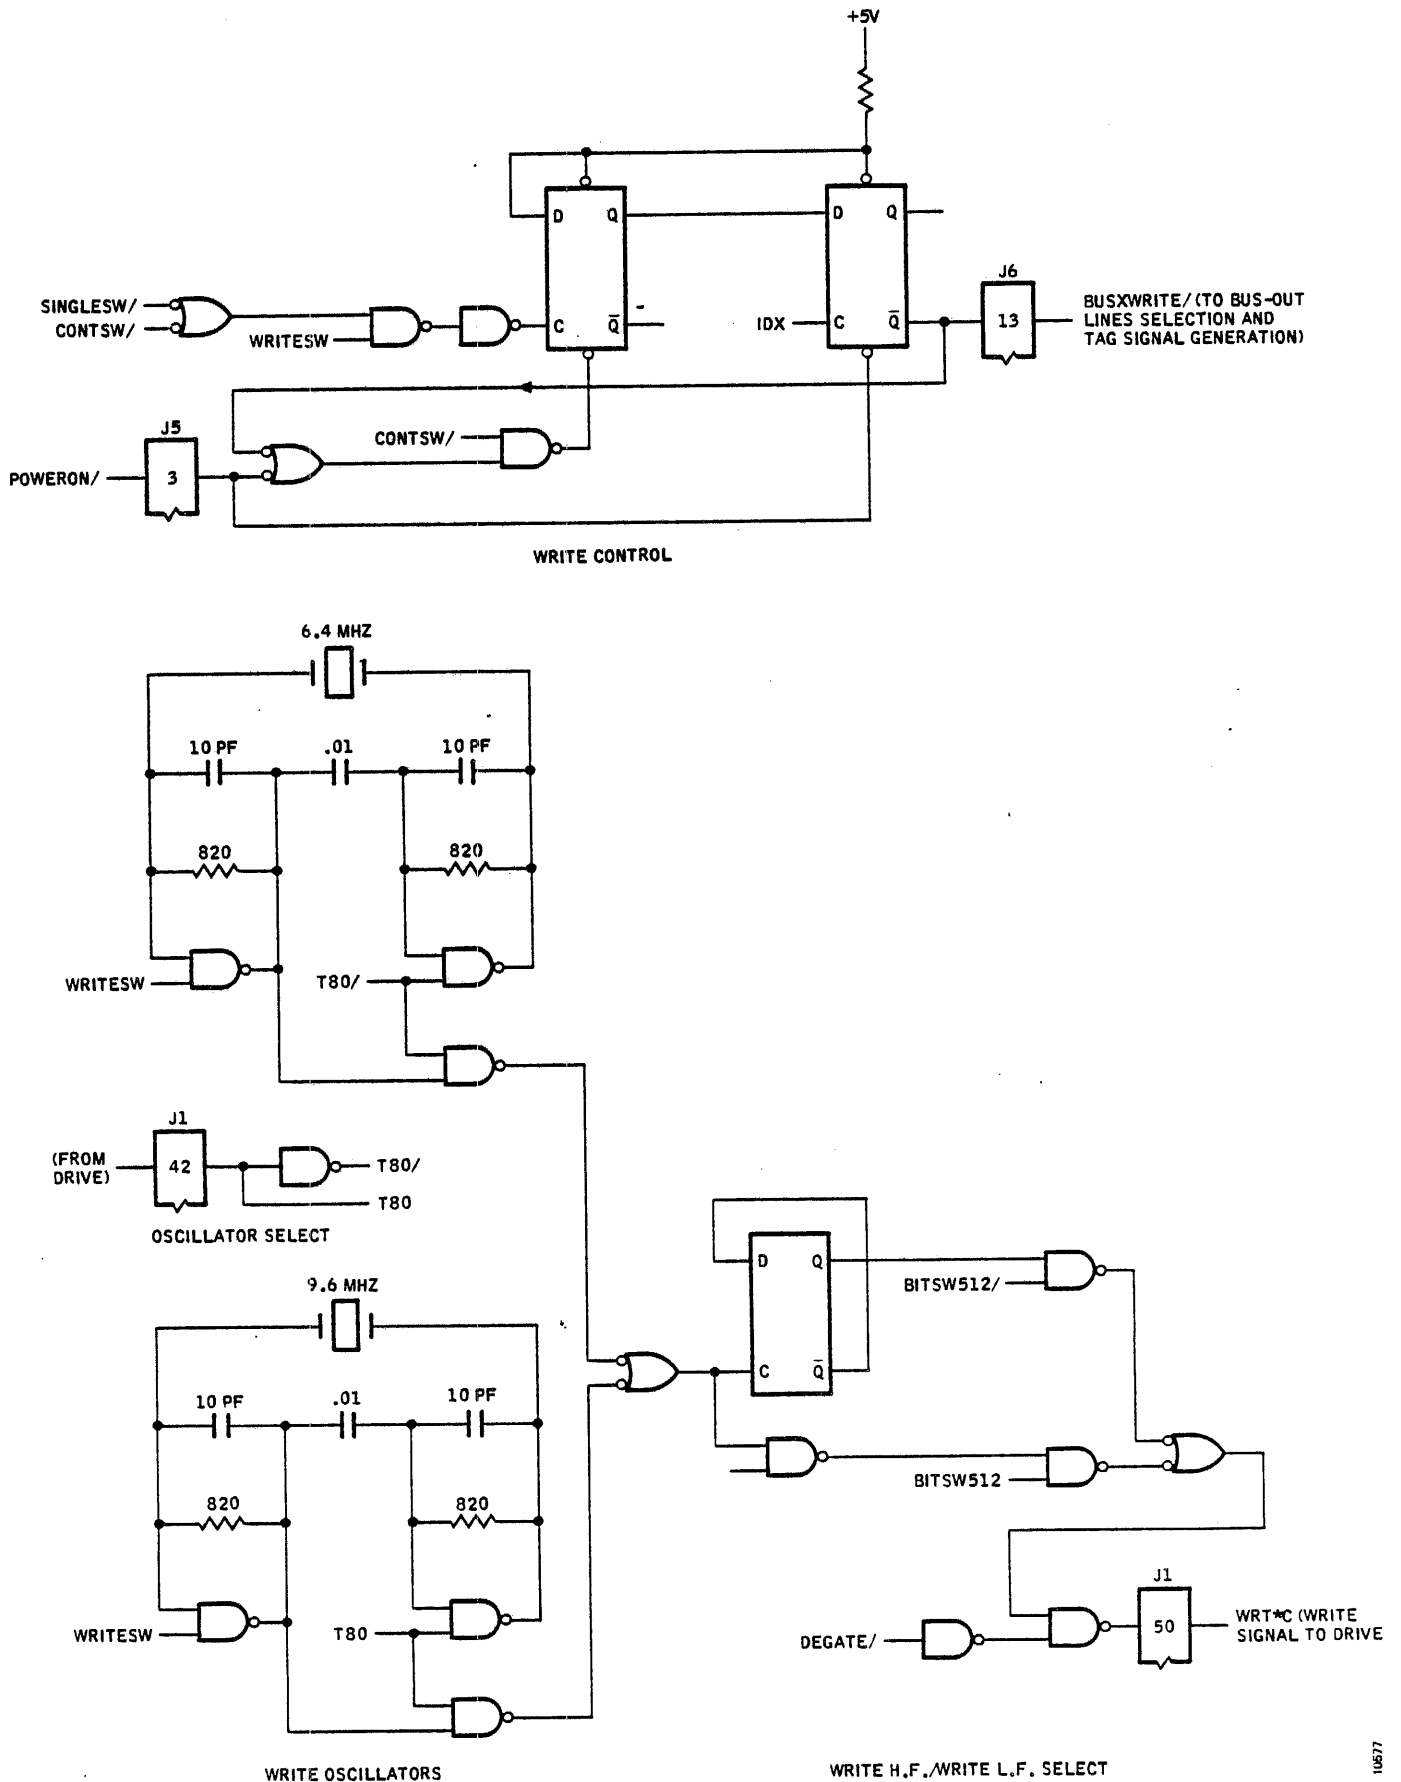
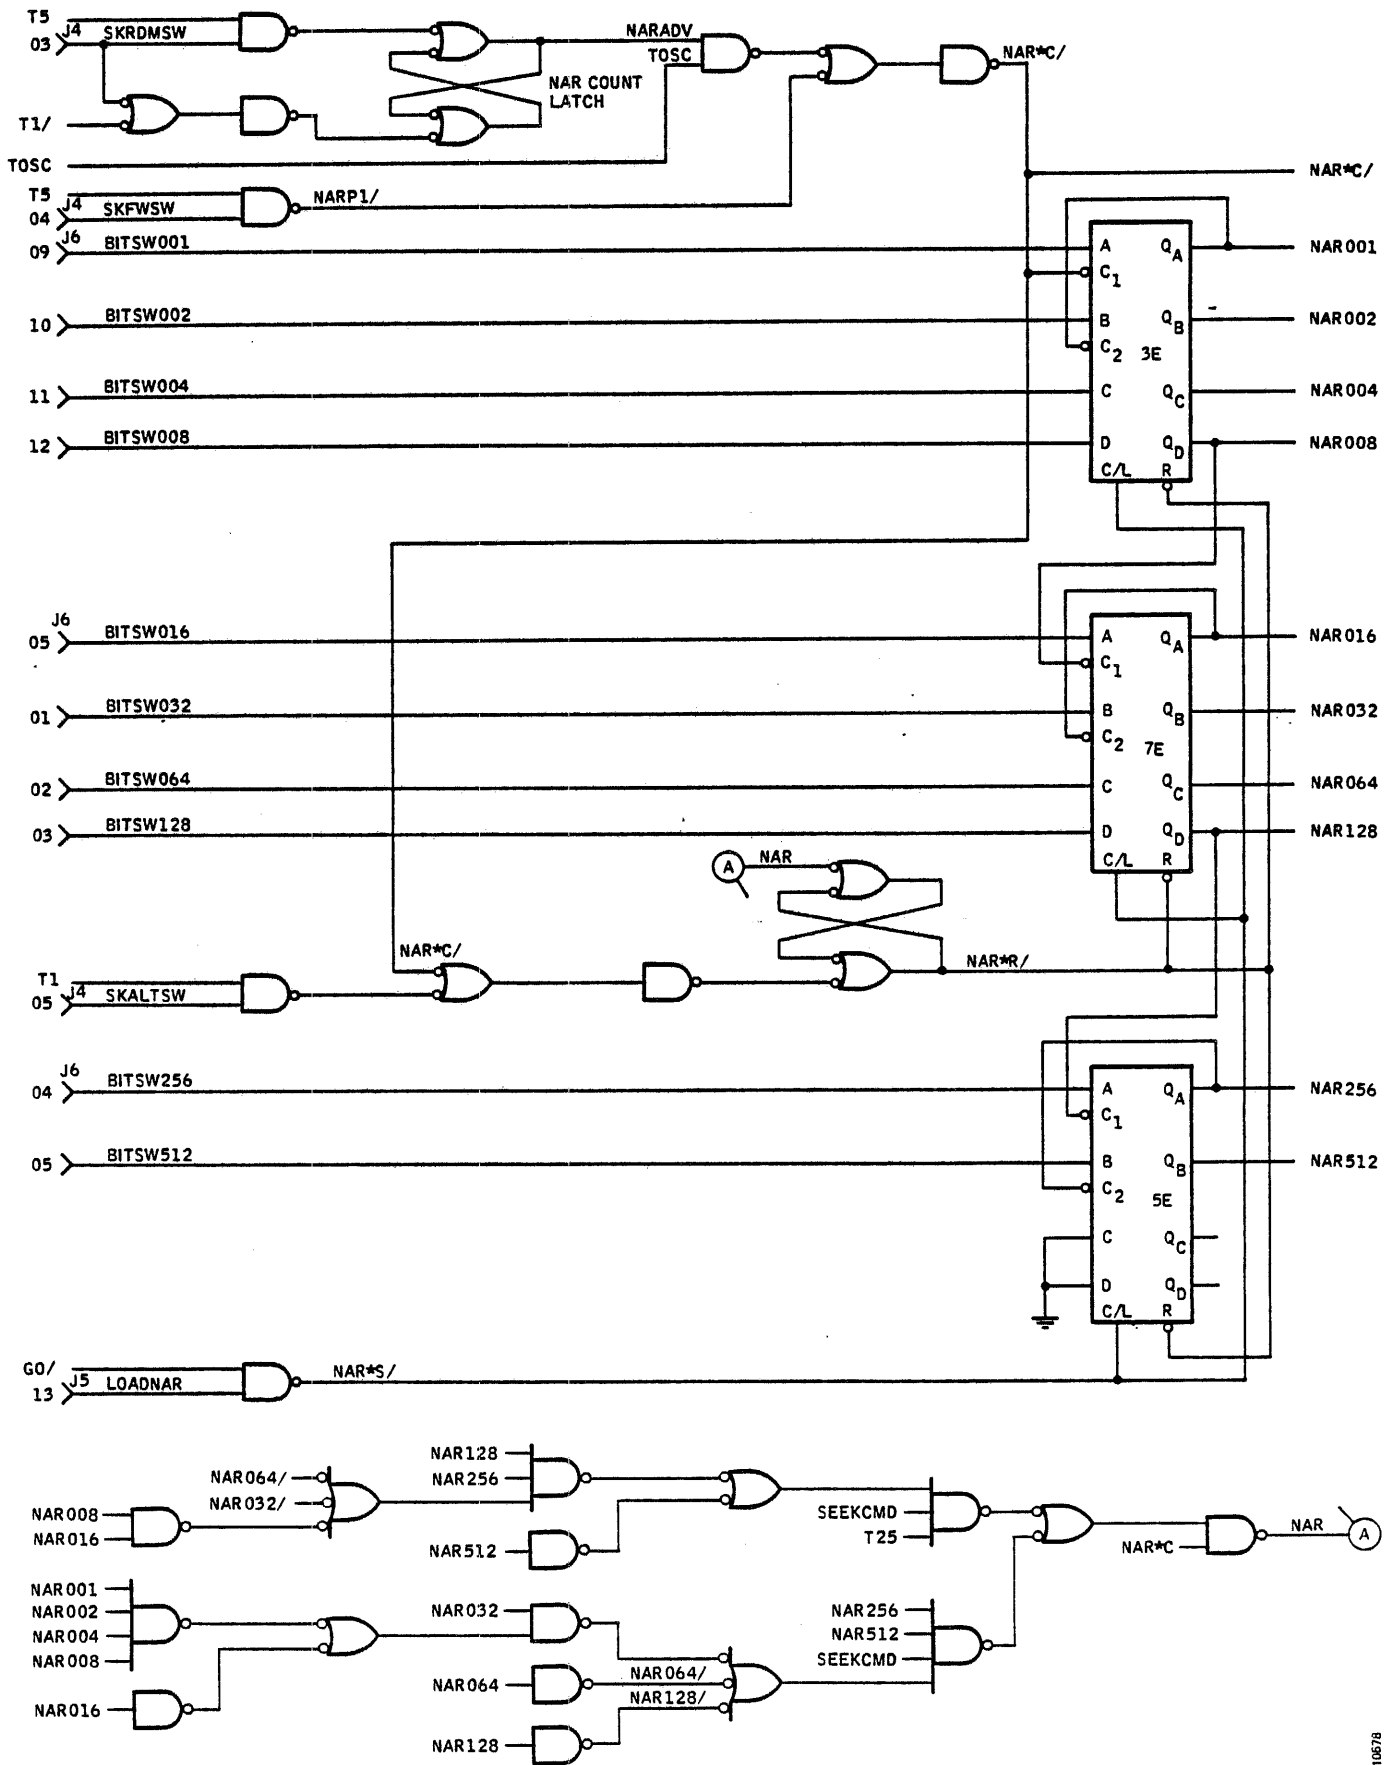
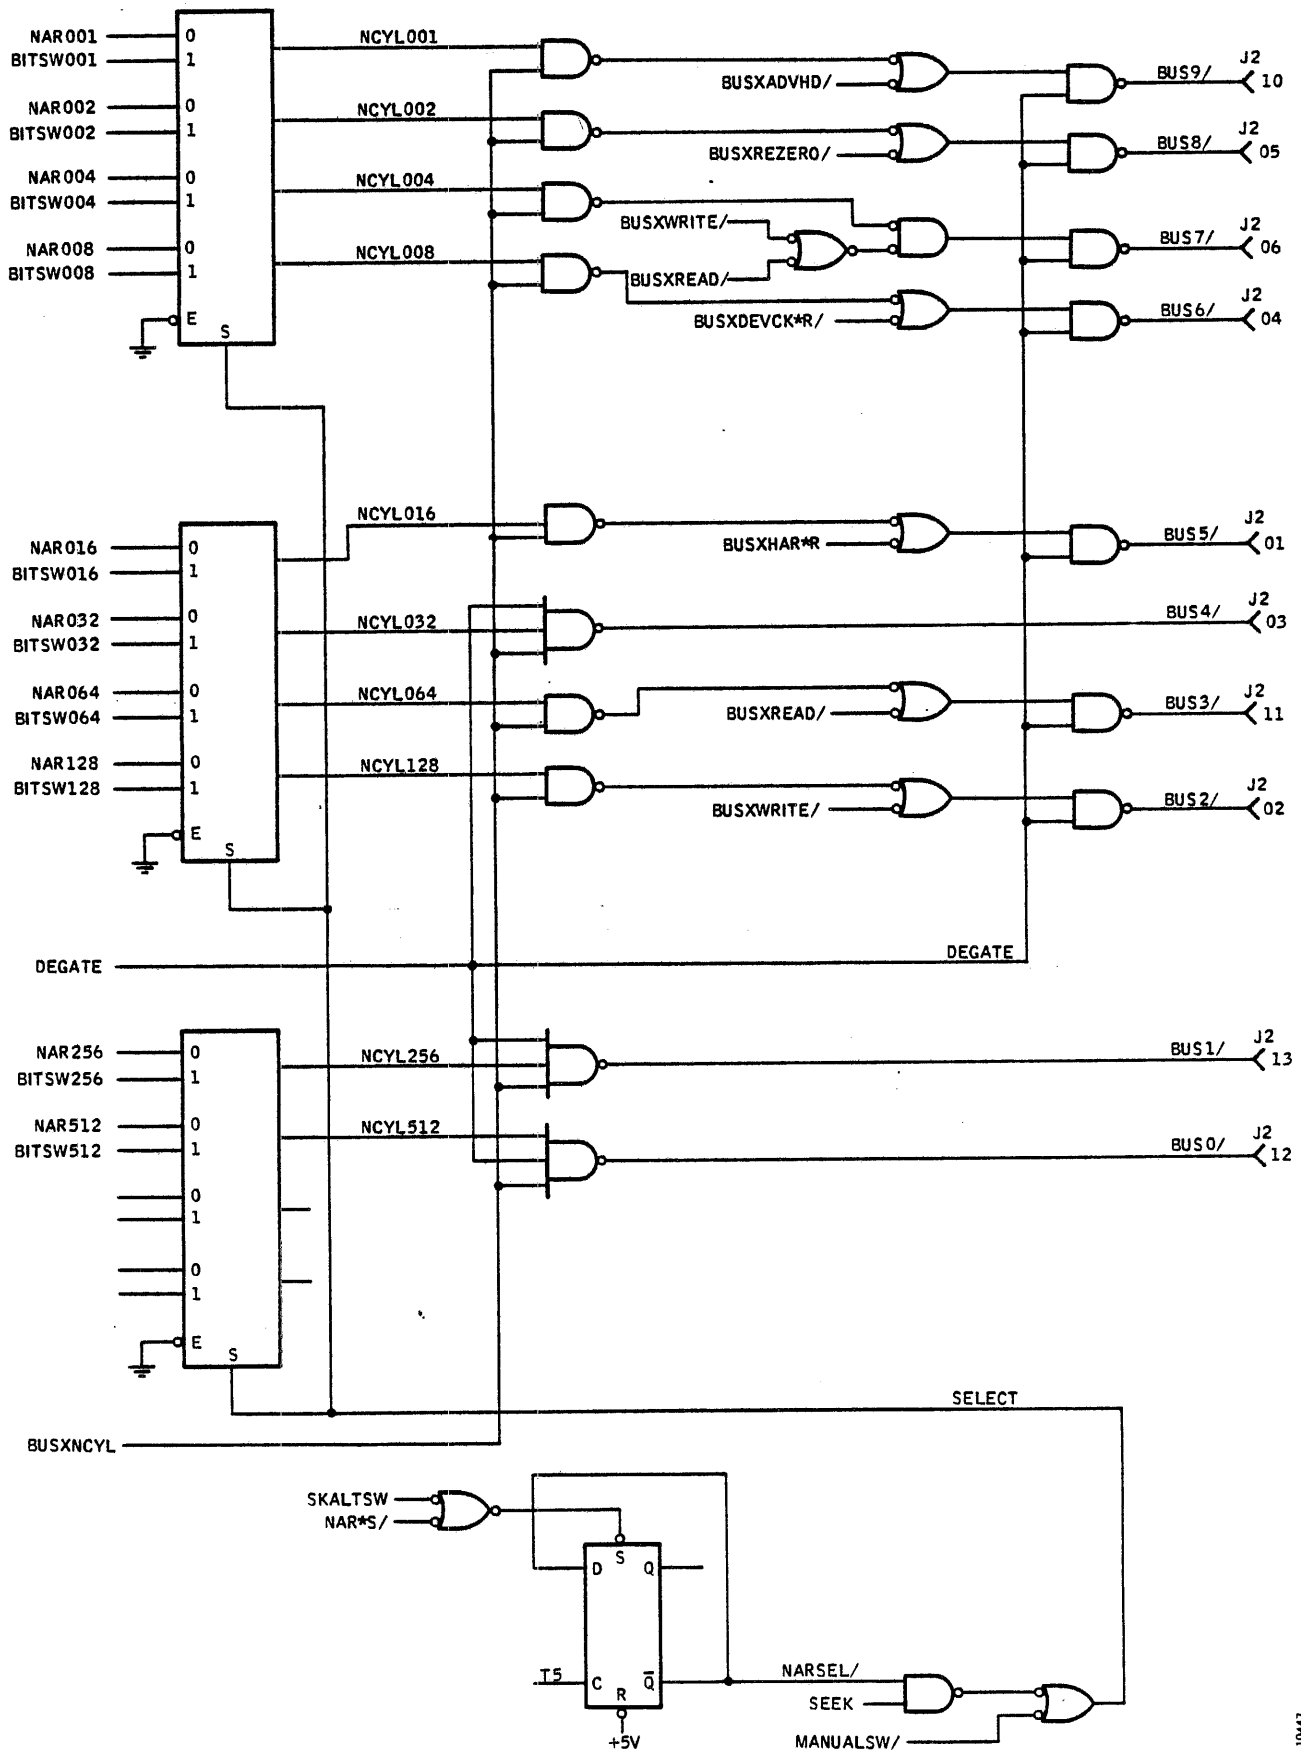

Figure 3-7. Write Circuit
Figure 3-9. Next Address Register
Figure 3-10. Bus-Out Lines Selection
Write operations are implemented by the circuit shown in Figure 3-7; it consists of a pair of control flip-flops that generate the write command and the two oscillators that supply the basic write signals. Once the exerciser has been connected to the drive and the T80 term (or T80/) has enabled the correct oscillator, a write operation is instituted by placing the FUNCTION switch in WRITE. From this, the WRITESW term starts the enabled oscillator running and also enables SINGLESW or CONTSW to the first control flip-flop. If CONT is then turned on or SINGLE pressed, the first flip-flop sets. With this flip-flop set, the circuit waits for the disk rotation to reach the index mark; when this occurs, the IDX term sets the second control flip-flop, generating BUSXWRITE. BUSXWRITE sets Bus 2 and Bus 7 (Figure 3-10) and raises the control tag (Figure 3-6). Thus the disk receives a write command, goes into write mode, and
The next address register (Figure 3-9) is used during seek alternate operations to hold one of the two cylinder
Signals placed on the bus lines to the drive are selected by the logic shown in Figure 3-10. The cylinder number, NCYL001 thru NCYL512, is sent out during seek operations; it is derived from the output of the multiplexer whose inputs are the BIT switches and the next address register (Figure 3-9) and is enabled to the bus lines by BUSXNCYL (from Figure 3-8). The multiplexer is operated (by the NARSEL flip-flop) to select alternately the BIT switches and the next address register during automatic alternate seek operations; this control sequence is described later.
Note that in forward seek operations the NARSEL flip-flop (Figure 3-10) is held in the set state by SKALTSW/ (FUNCTION SELECT not at SKALT) and this keeps the bus-out multiplexer always reading the NAR output, not the BIT switches.
7. When the highest-numbered cylinder is reached (407 for T25 drives, 814 for others), decoding of outputs of the next address register (Figure 3-9) sets NAR true at the next NAR*C/ and this sets the NAR*R latch which, in turn, resets the next address register to zero; the next seek will be to cylinder zero.
A read operation is controlled by the BUSXREAD latch (top of Figure 3-8) and its set/reset logic. With FUNCTION SELECT in the READ position, turning on the CONT switch sets the latch, and BUSXREAD enables bus-out lines 3 and 7 (Figure 3-10), the read command configuration. At the same time, BUSXREAD enables the control tag (Figure 3-6) and this starts the drive on a read operation. When the CONT switch is turned off, the read stops at the next IDX (index) received from the drive.